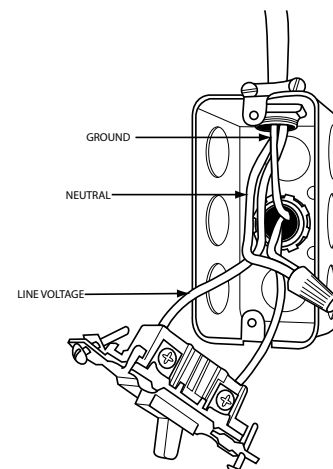

Fig. 35 – Field-Supplied External Electrical Box on Furnace Casing
5. Fasten the external electrical box to the furnace casing using two (2) sheet metal screws.
11. Connect field power and neutral leads to furnace power leads inside the external electrical box as shown in Fig. 35.
1. Drill two (2) 1/8-in. (3 mm) pilot holes through the dimples in the furnace casing near the 7/8-in. (22 mm) knockout or plug on the side of the casing. Do not remove the knockout or plug in the side of the casing.
3. Install two (2) screws through the outside of the casing to secure the J-Box bracket to the furnace casing.
9. Connect field power and neutral leads to furnace power leads inside the external electrical box as shown in Fig. 35.